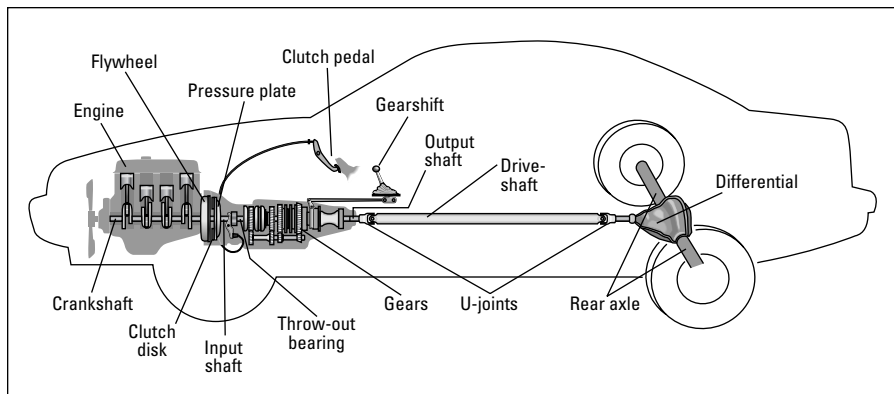
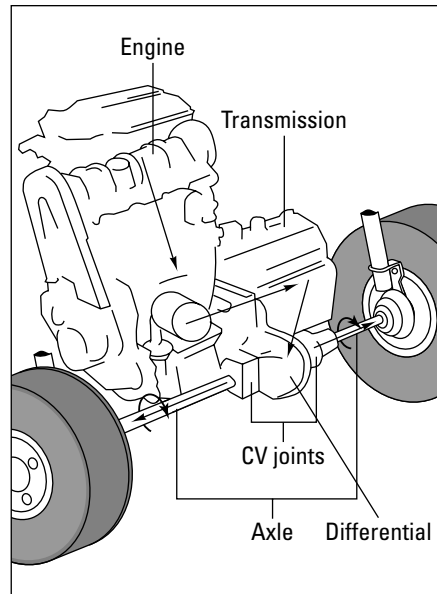
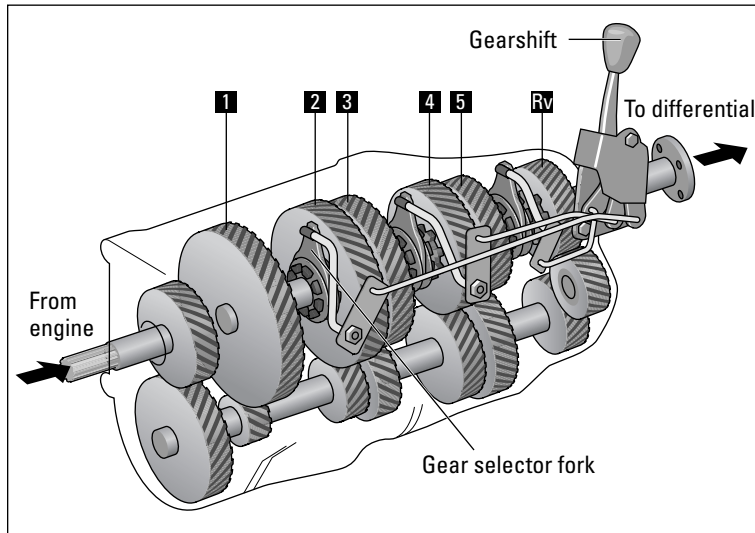
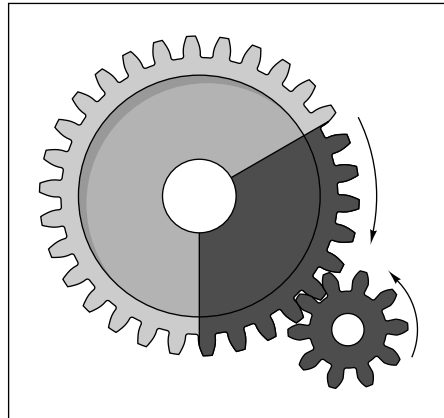

Figure 18-1: The drive train in a vehicle with rear-wheel drive and a manual transmission.
Figure 18-2: The flow of power through a transaxle on a front-wheel drive vehicle.
Figure 18-7: Five-speed transmissions are standard on many vehicles.
Figure 18-8: A 3:1 gear ratio: A gear with 10 teeth will have rotated completely when a 30-tooth gear has traveled only a third of the way around.
To make your ride smoother, Figure 18-1 shows all the components as they're located on a vehicle with rear-wheel drive and a manual transmission. If your vehicle has front-wheel drive, Figure 18-2 shows you the way the power flows through a transaxle. The principles and parts are pretty much the same in each type of drive train.
Use Figure 18-1 to trace the flow of power from one part of the drive train to the next, as described in the following steps:
On vehicles with **transverse engines** (see Figure 18-2), ball-and-socket fittings called **constant velocity joints (CV)** transmit engine power from the axles to the wheels. You can find them where each axle joins the **transaxle** and where each connects with the vehicle's drive wheels. Like U-joints, they can turn and move in any direction — up, down, and from side to side.
On a **front-wheel drive** vehicle the **transaxle** is in line with the center hubs of the front wheels (refer to Figure 18-2). The axles (sometimes called *half-shafts*) emerge from each end and run straight to the wheels. The differential changes the direction of the power coming out of the engine and into the transaxle.
Figure 18-1 shows you where each part is located on the *drive train* of a manual transmission. Figure 18-7 shows a five-speed manual transmission.
You use the **clutch** when you start, stop, and shift gears. In each case, you step on the **clutch pedal** with your left foot to disengage the **clutch disk** from the **engine flywheel** so that the engine's **crankshaft** can turn independently of the **transmission input shaft** (the turning shaft that carries the power from the **engine** into the **transmission**). If you attempt to shift gears without using the clutch, the gears in the transmission will rotate at different speeds and could clash and injure the transmission. The clutch consists of the following major parts, shown in Figure 18-1:
The transmission contains the **gears** and responds to messages from the **gearshift** and the **clutch**. On manual transmissions, the gears are metal wheels with notches on the rims that allow them to mesh with one another (see Figure 18-7). Originally, the gears in most manual transmissions were moved into and out of mesh with each other by the gearshift lever. In modern vehicles, the gears are always in mesh and only the **synchronizers** move, causing a change in power flow.
Here's how the gear ratio works: As you can see in Figure 18-8, a large gear is placed next to a small gear so that their teeth mesh. If the large gear has 30 teeth and the small gear has 10, the large gear turns once to every three turns of the small gear. In other words, the large gear turns only a third of the way around for every complete revolution of the small gear. The gears in your transmission work on this principle, which, in this case, is called a 3:1 gear ratio. As you can see in Figure 18-7, the turning drive train brings a gear into contact with other gears of different sizes. That's why the **transmission input shaft** that runs between the engine and the transmission turns at the same rate of speed as the engine but the **transmission output shaft** that leaves the transmission and carries the power via the **driveshaft** and **differential** to the rear wheels turns at a different rate, depending on which gears in the transmission are engaged.